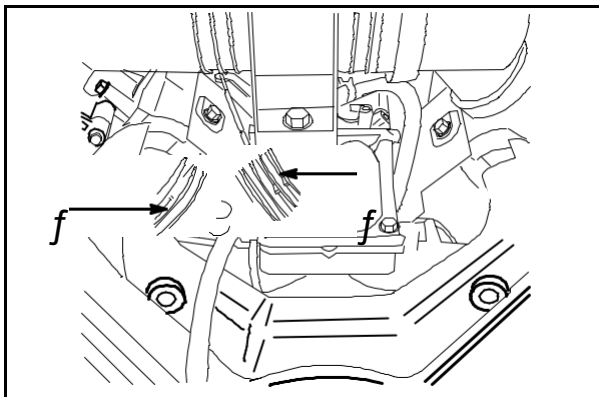

Fig. 27
Blow compressed air from the PTO side to clean the cooling fins (3), **Fig. 27** around each cylinder and to back flush the cooling system.